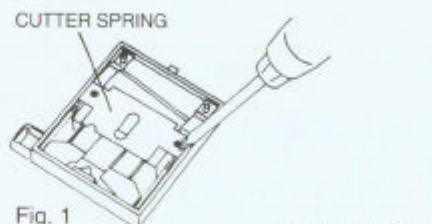

Fig. 1
2. Remove the two screws and remove the CUTTER SPRING (holding plate). (Fig. 1)